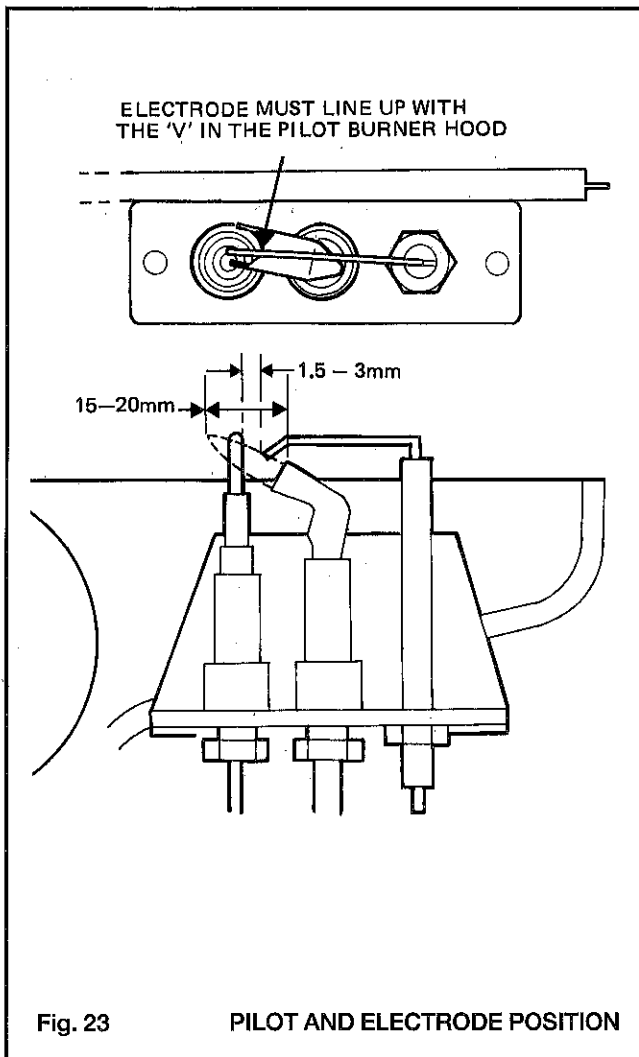

Fig. 23 PILOT AND ELECTRODE POSITION
1. The pilot flame is 25mm (1in) long as shown in Fig. 23. The pilot is factory set to a maximum and no further adjustment should be necessary.
1. The pilot flame is 25mm (1in) long as shown in Fig. 23. The pilot adjuster screw is factory set to maximum and no further adjustment is necessary. However, if the pilot flame appears small, check the adjustment of the pilot pressure adjuster screw - (B), Fig. 21 - as follows: